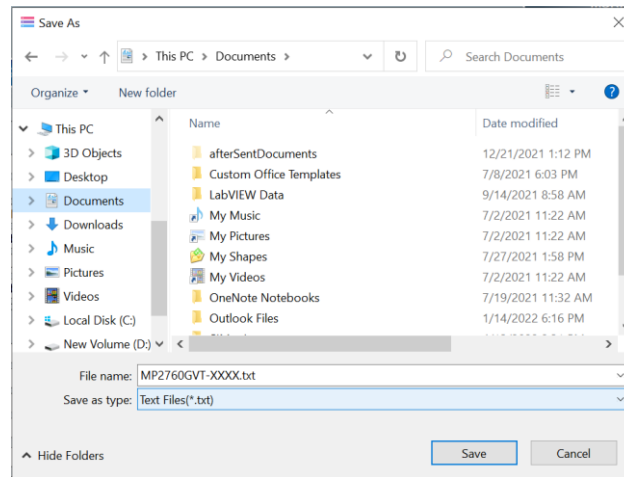

Figure 14: Save the Exported Configurations
8. Find a location for the exported file and click “Save”. The configurations are saved in a text file (see Figure 14 on page 13).